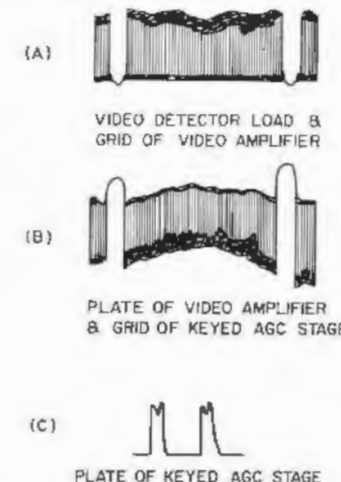

Fig. 1—Waveforms as seen in the video amplifier and *agc* stage.
4. The following tubes were changed: *rf* amplifier, 1st and 2nd common if amplifiers, keyed *agc* and 1st audio. The symptoms remained unchanged. An oscilloscope applied to the video detector load, video amplifier plate, and to the plate and control grid of the *agc* keyer tube showed the waveforms in Fig. 1.